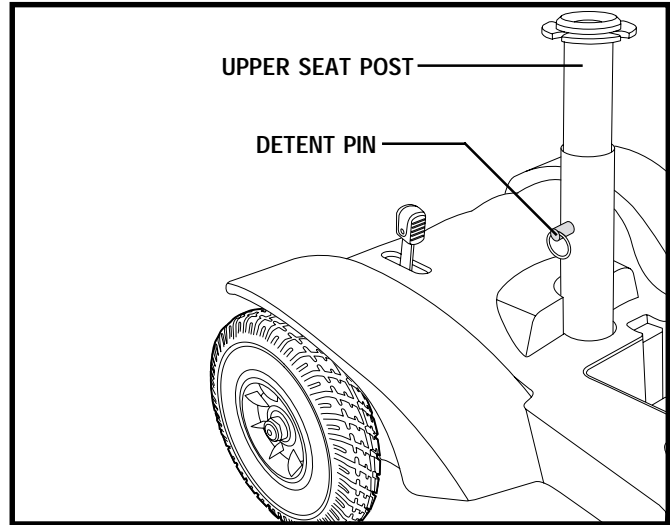

Figure 14. Seat Post Removal
3. Remove the detent pin and upper seat post. **See figure 14.**